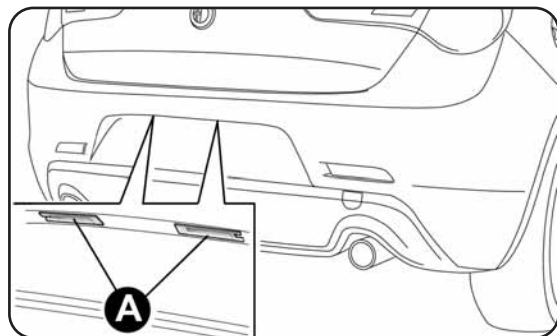

fig. 139
- remove number plate lights group A-fig. 139;